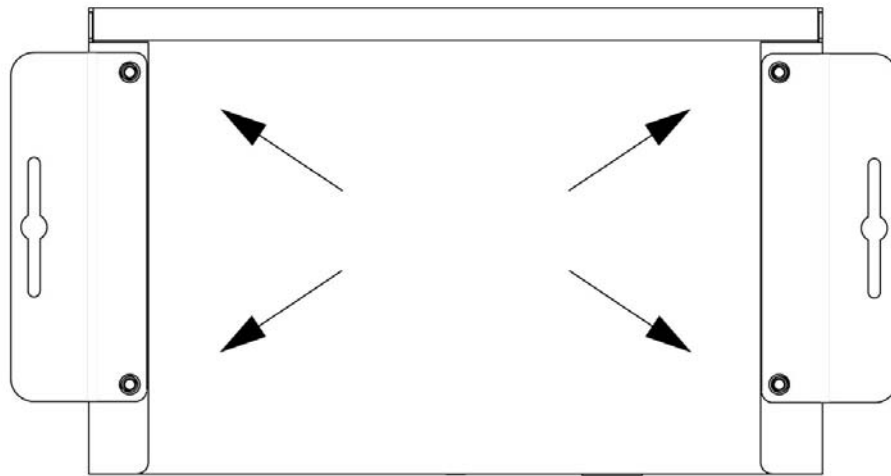

FIG. 5 Installing Mounting Wings
1. Remove the four screws from the bottom of the unit and use them to attach the mounting wings (not included in shipment - part number N9101). See Figure 5.